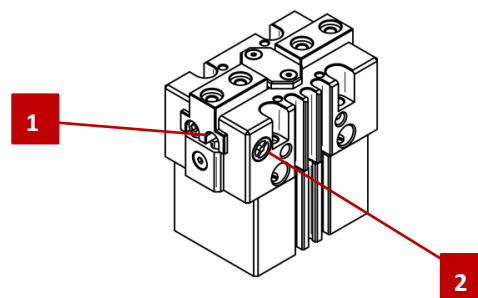

Fig. 9 Setting inductive sensors
1. Remove cover (Fig. 9, 1) with needle-nose pliers.
3. Set the adjustment screws (Fig. 9, 2) for stroke detection.